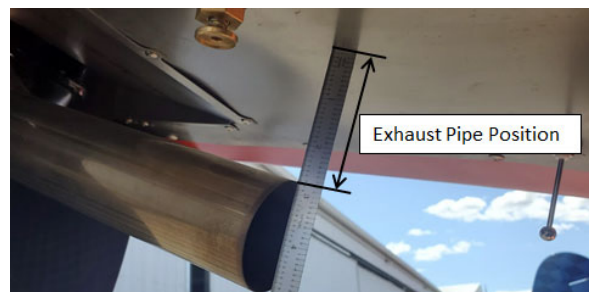

Figure 1 – Measurement of Exhaust Pipe Position
7. Measure the distance between the upper edge of the aft end of the exhaust pipe and the titanium belly of the boot cowl. This distance will be referred to as the "exhaust pipe position". See Figure 1.
9. Loosen the 10mm nut on the V-clamp securing the exhaust pipe to the muffler, as well as the M5x12 Torx bit set screws (3) in the muffler housing.
10. Adjust the exhaust pipe position to between 2.25"-2.75" (57mm-70mm), measured per Figure 1.
11. Re-tighten the V-clamp via the 10mm nut. Torque nut to 70 in-lb (8 Nm) per MMH-916i A/C24 Chapter 78-10-00 pg. 12, step 5. Torque M5x12 Torx set screws (3) to 44 in-lbs (5 Nm) per MMH-916 A/C24 Chapter 78-10-00 pg. 12, step 6.